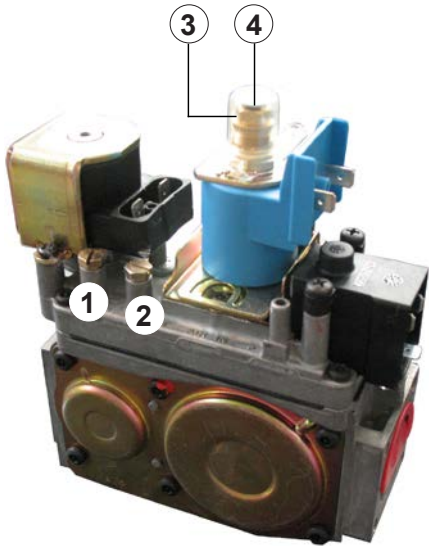

Fig. 171 Gas solenoid valve
- d) to measure and check the pressure of the incoming gas unscrew the screw and insert the manometer in the pressure socket no. 1 (fig. 171).
- e) to measure and check the pressure of the outgoing gas unscrew the screw and insert the manometer in the pressure socket no. 2 (fig. 171).